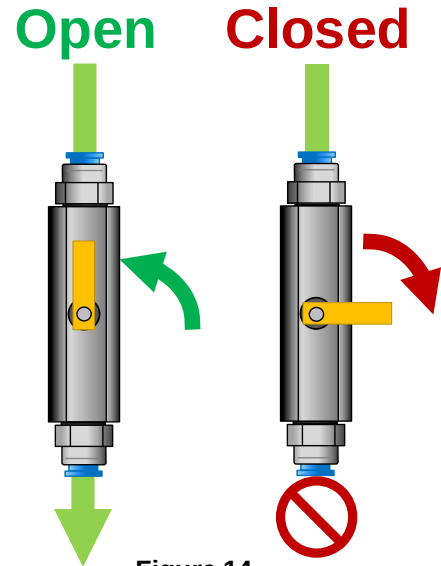

Figure 14
15.2 Ensure Tank Supply Valve #2 and Isolation Valve #2 are closed. **See Fig. 14**